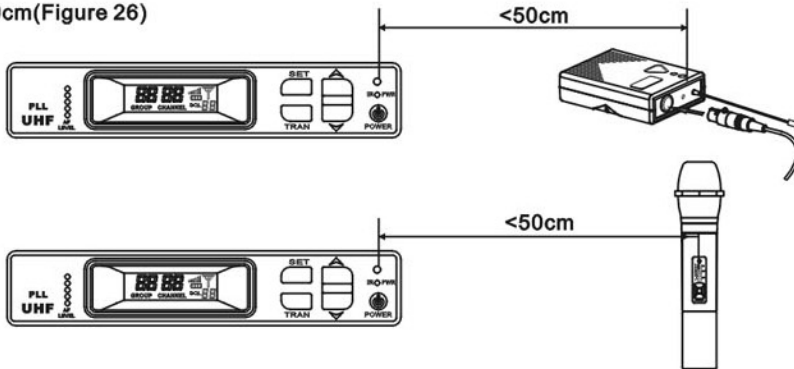

FIGURE 26
2. IR window of transmitter aim at the IR window of receiver; the both of distance is not more 50cm(Figure 26)